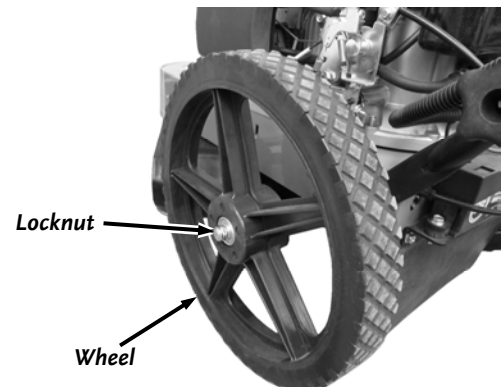

Figure 42
2. Loosen and remove the Locknut with the required Wrench (**Figure 42**).